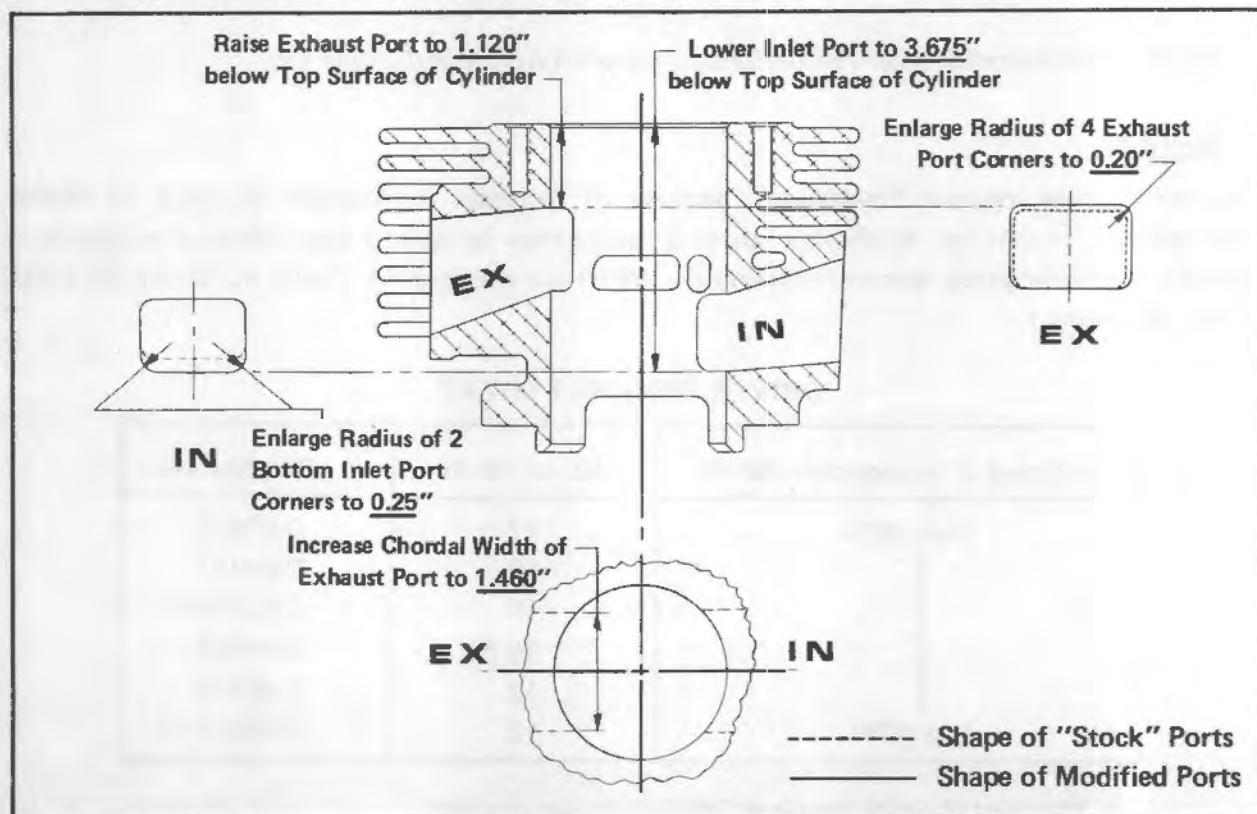

Figure 1. 340 S/T "Modified-Stock" and "Super-Modified" Cylinder Dimensions
1. Raise top edge of exhaust port to a point 1.120" (28.45mm) below top surface of cylinder. (Figure 1) **DO NOT** change bottom edge of exhaust port.
2. Increase the chordal width of exhaust port to 1.460" (37.08mm). (Figure 1)
*NOTE: Chordal width (Figure 1) is straight line distance between side edges of port (not following curvature of cylinder wall).*
3. Enlarge radius of 4 exhaust port corners to 0.20" (5.1mm). (Figure 1)
1. Lower bottom edge of inlet port to a point 3.675" (93.35mm) below top surface of cylinder. (Figure 1) DO NOT change top edge or chordal width of inlet port.
2. Enlarge radius of 2 bottom inlet port corners to 0.25" (6.35mm). (Figure 1)